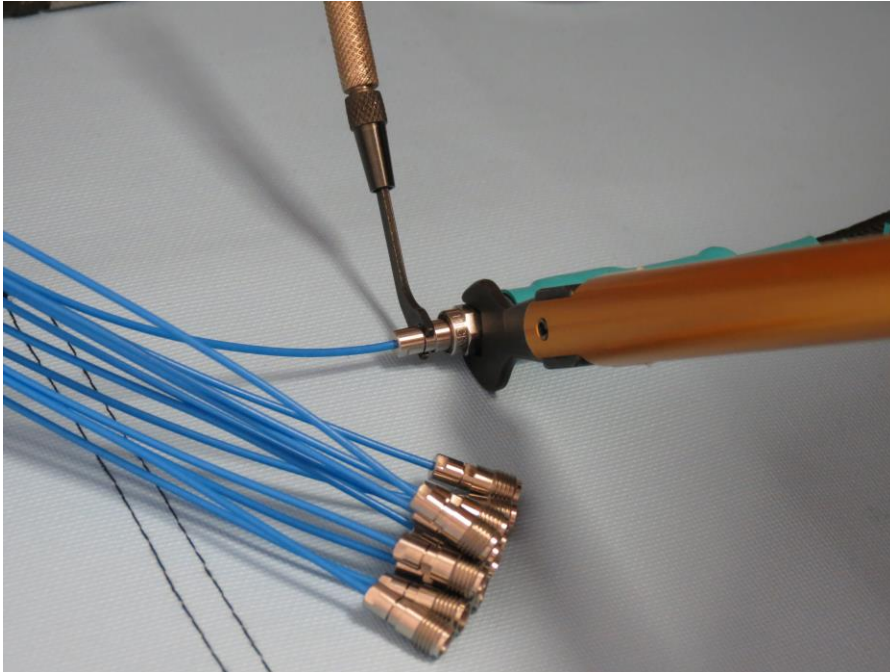

Figure 11: Connection Torque Procedure
- While holding the coax cables and connectors stationary, apply a moment force with the torque wrench at the coupling nut into the decreasing angle direction. Hold the torque wrench from the end (See Figure 11).